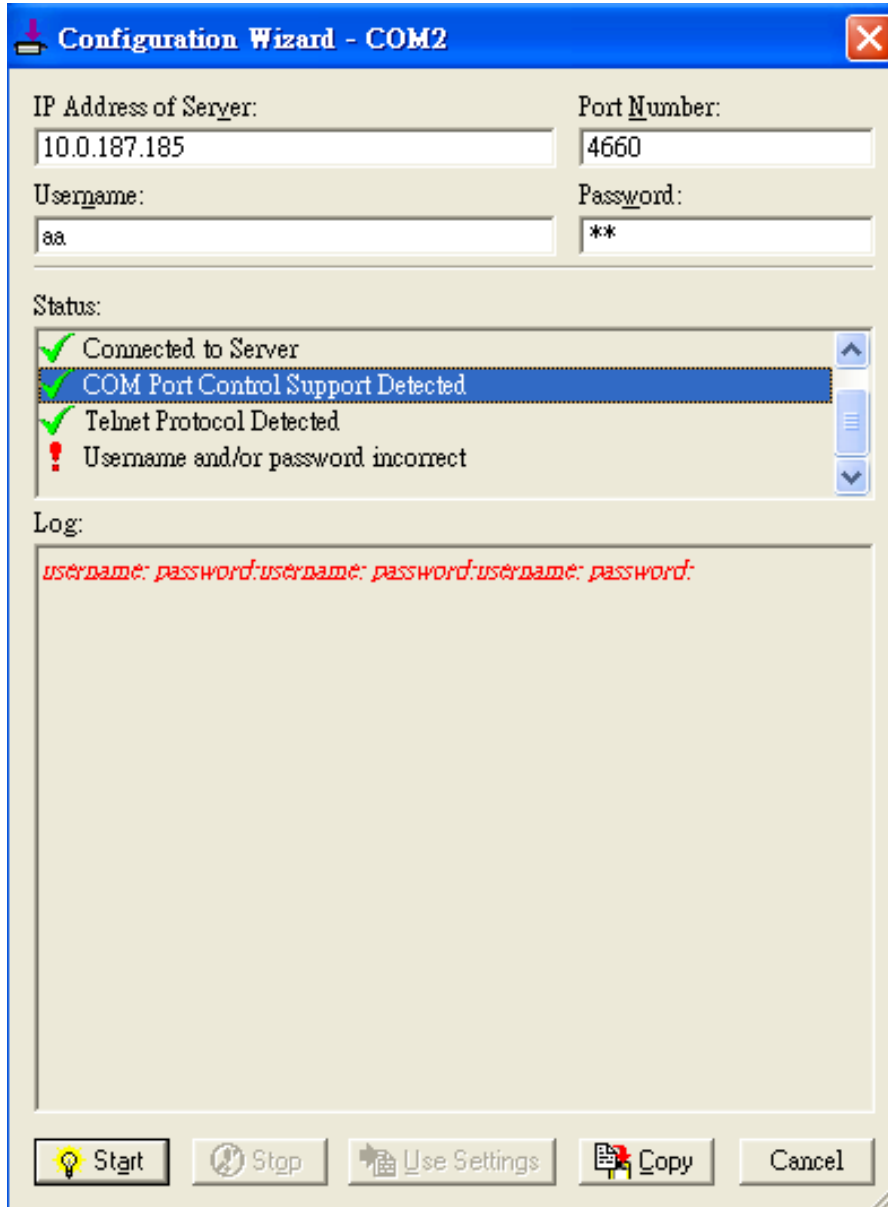

Figure 6.15 VCOM Authentication failed due to incorrect Username and/or Password
- If the status reports with an exclamation mark with a message “**Username and/or password incorrect**” as shown in Figure 6.15. This means that the wrong username and/or password were entered and the authentication process failed.